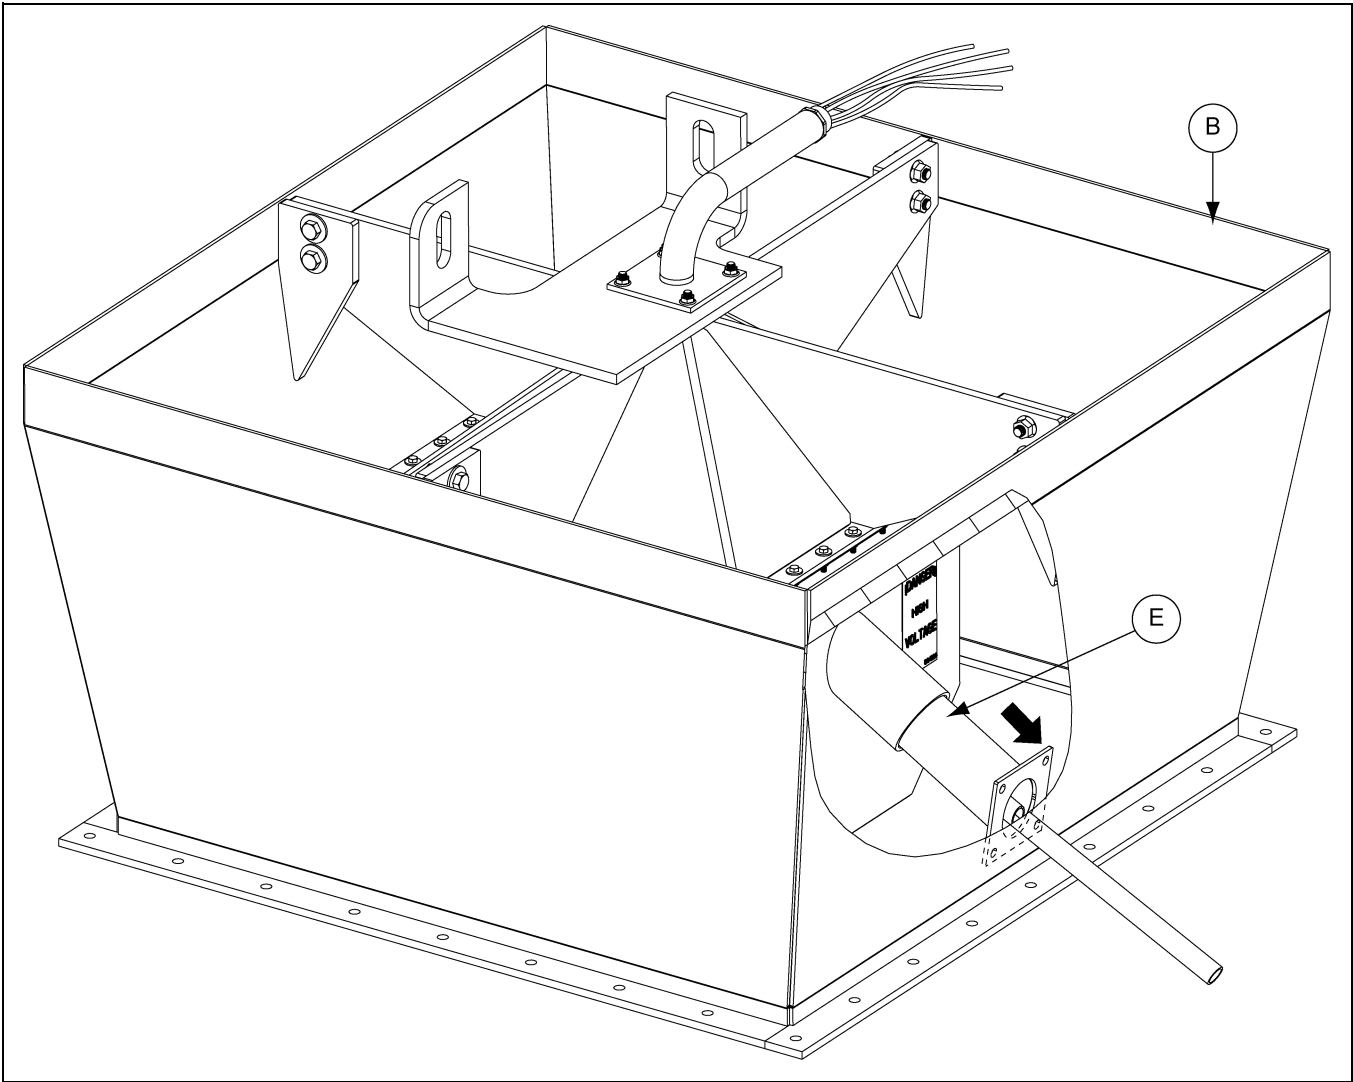

Figure 6E
- 8. Remove all adhesive tape, allowing the lower flex conduit tubes (E) to slide and rest against the walls of the center well (B). *(See Figure 6E.)*
- 9. Weld each lower flex conduit tubes (E) to the sides of the center well (B).